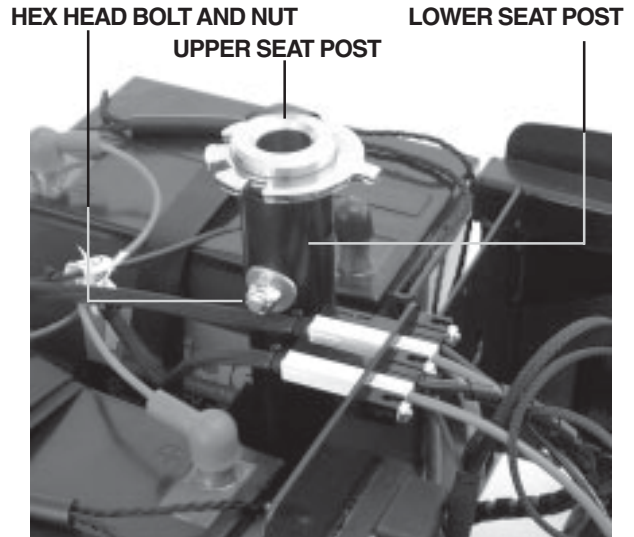

Figure 14. Seat Height Adjustment
3. Use two 17-mm wrenches to loosen and remove the hex head bolt and nut. See figure 14.